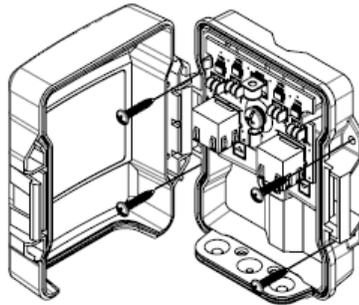

Figure 2b
2. Wall mounting – orient cable gland towards the ground. Open lid to access wall mount holes, shown in Figure 2b. If using the provided wall anchors, use the mount holes as a template to mark the locations for the anchors; pilot holes must be drilled prior to inserting the anchors with a soft hammer. Place unit over mounting location and install at least two of the provided #6 screws to a torque no greater than 1 Nm (8.8 in-lbf).